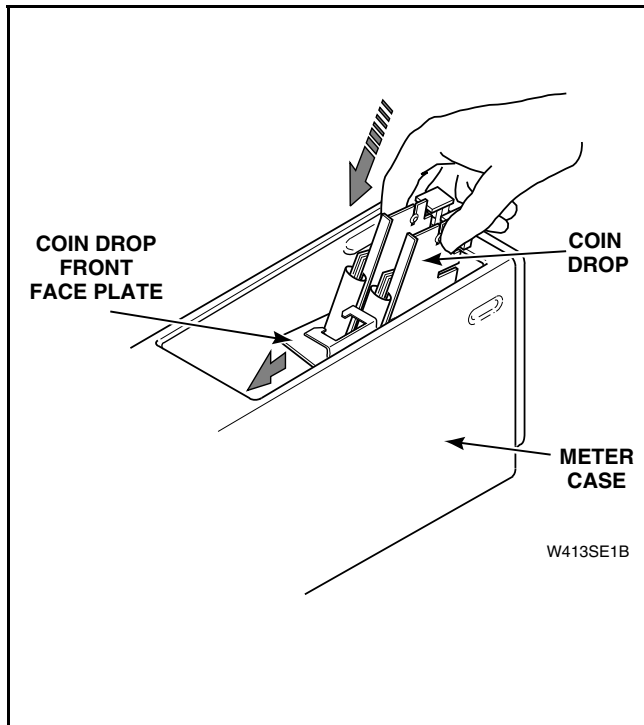

Figure 55
- (1) Gently work new coin drop into meter case with the drop's front face plate down. Refer to *Figure 55*.